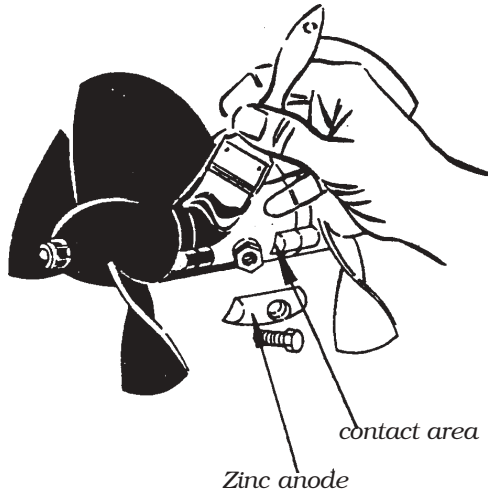

Fig. 11
1. Prime the gear house the same way as the tunnel interior. **NB!** Do not prime the zinc ano-de or its contact area. Refer fig. 11.
3. Before the propeller is fitted it should be ground and cleaned with acetone and then painted as in fig. 11.